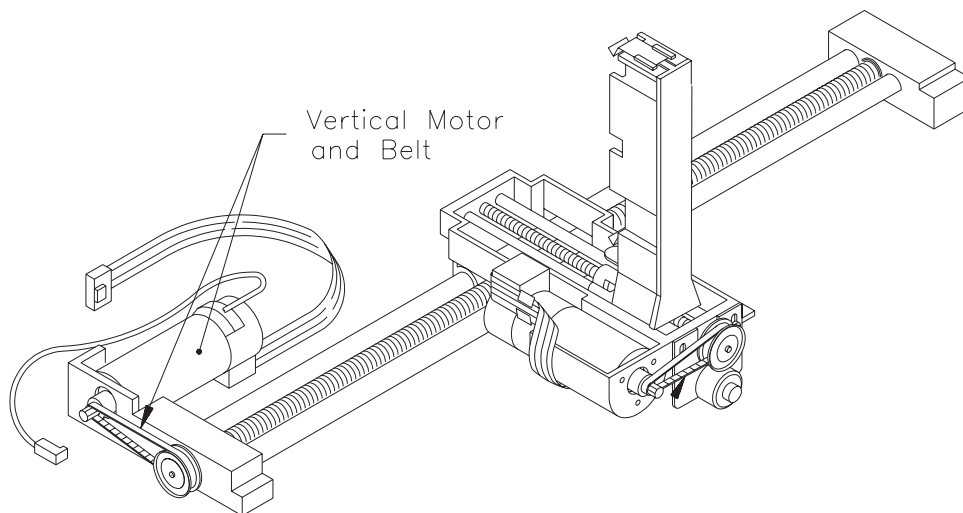

Figure 13-1 Vertical belt and vertical motor (CHM removed from the CHS)
5. Locate the vertical belt at the base of the CHM, as shown in Figure 13-1. Insert your index finger into the loop of the belt. Gently turn the belt to the left and gradually slip the belt off the tip of the motor pulley (the smaller pulley attached to the motor).
6. Locate the vertical motor, as shown in Figure 13-1. Using a T-8 TORX driver bit, remove the three screws that hold the motor on the CHM. These screws are located around the motor pulley. Remove the motor by sliding it out of its housing.
1. Slide the motor (pulley first) into its housing on the CHM. The correct position of the motor is shown in Figure 13-1.